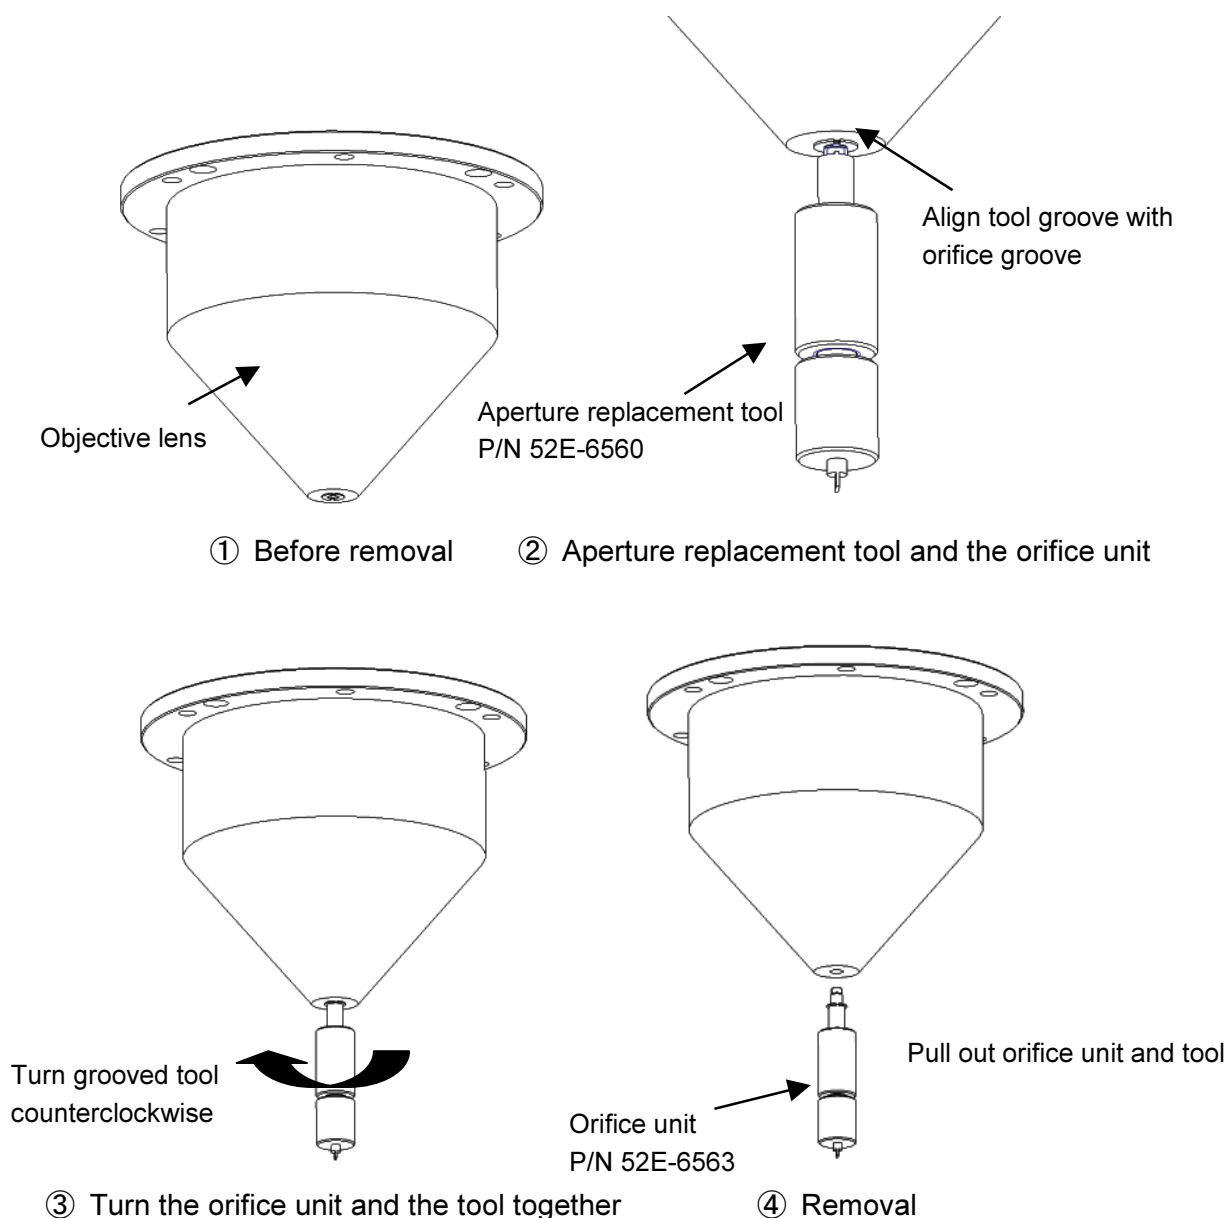

Fig. 4.1-28 Removing the Orifice Unit (2)
To remove the orifice unit, first insert the tip (the M4 male screw) of the part inside the replacement tool into the hole located on the underside of the objective lens, and screw it into the orifice unit, as illustrated in Figure 4.1-28 ②. In this step, align the outer groove of the aperture replacement tool with the circular groove located in the lower part of the orifice unit. After that, rotate the outer part of the replacement tool counterclockwise, as shown in Figure 4.1-28 ③, and then remove the orifice unit, as shown in Figure 4.1-28 ④.